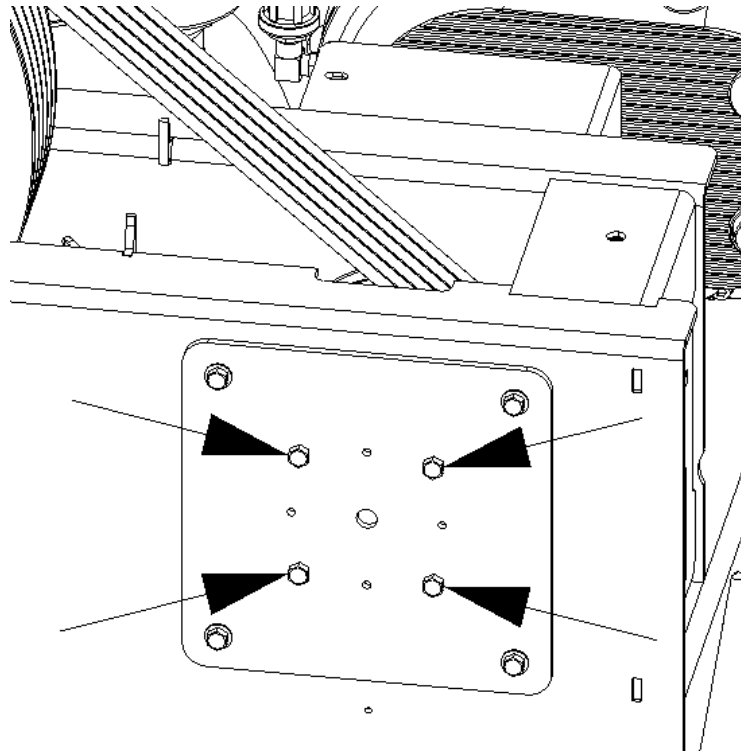

Figure 7-6: Bearing anchor bolts
- e. Use the bearing housing assembly anchor bolts to align the blower pulley as seen in **Figure 7-6**. Tighten anchor bolts to their specified torque.